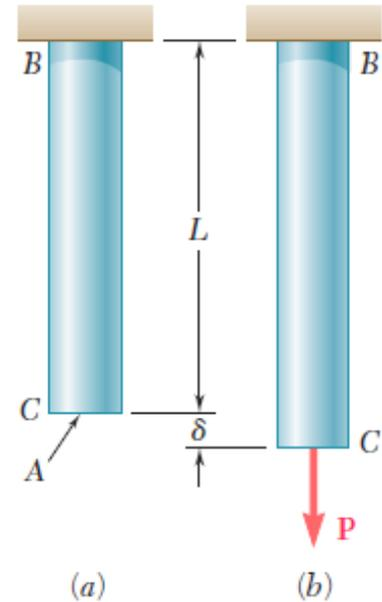

Figure 6.1
- ▶ As already mentioned, wherever a single force (or a system of forces) acts on a body, it undergoes some deformation (Figure 6.1). This deformation per unit length is known as strain. Mathematically strain may be define as deformation per unit length, i.e., strain is: